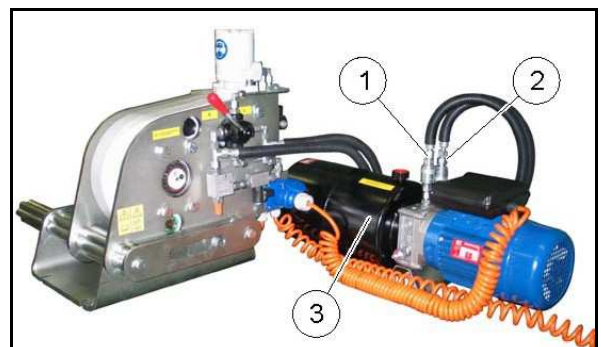

Fig. 16
1. Connect the hydraulic hose lines (1) and (2) to the connections of a hydraulic unit or to the hydraulics system of a tractor.
Fig. 16 shows the connection of the hydraulic hose lines on the Walterscheid hydraulic unit (3).